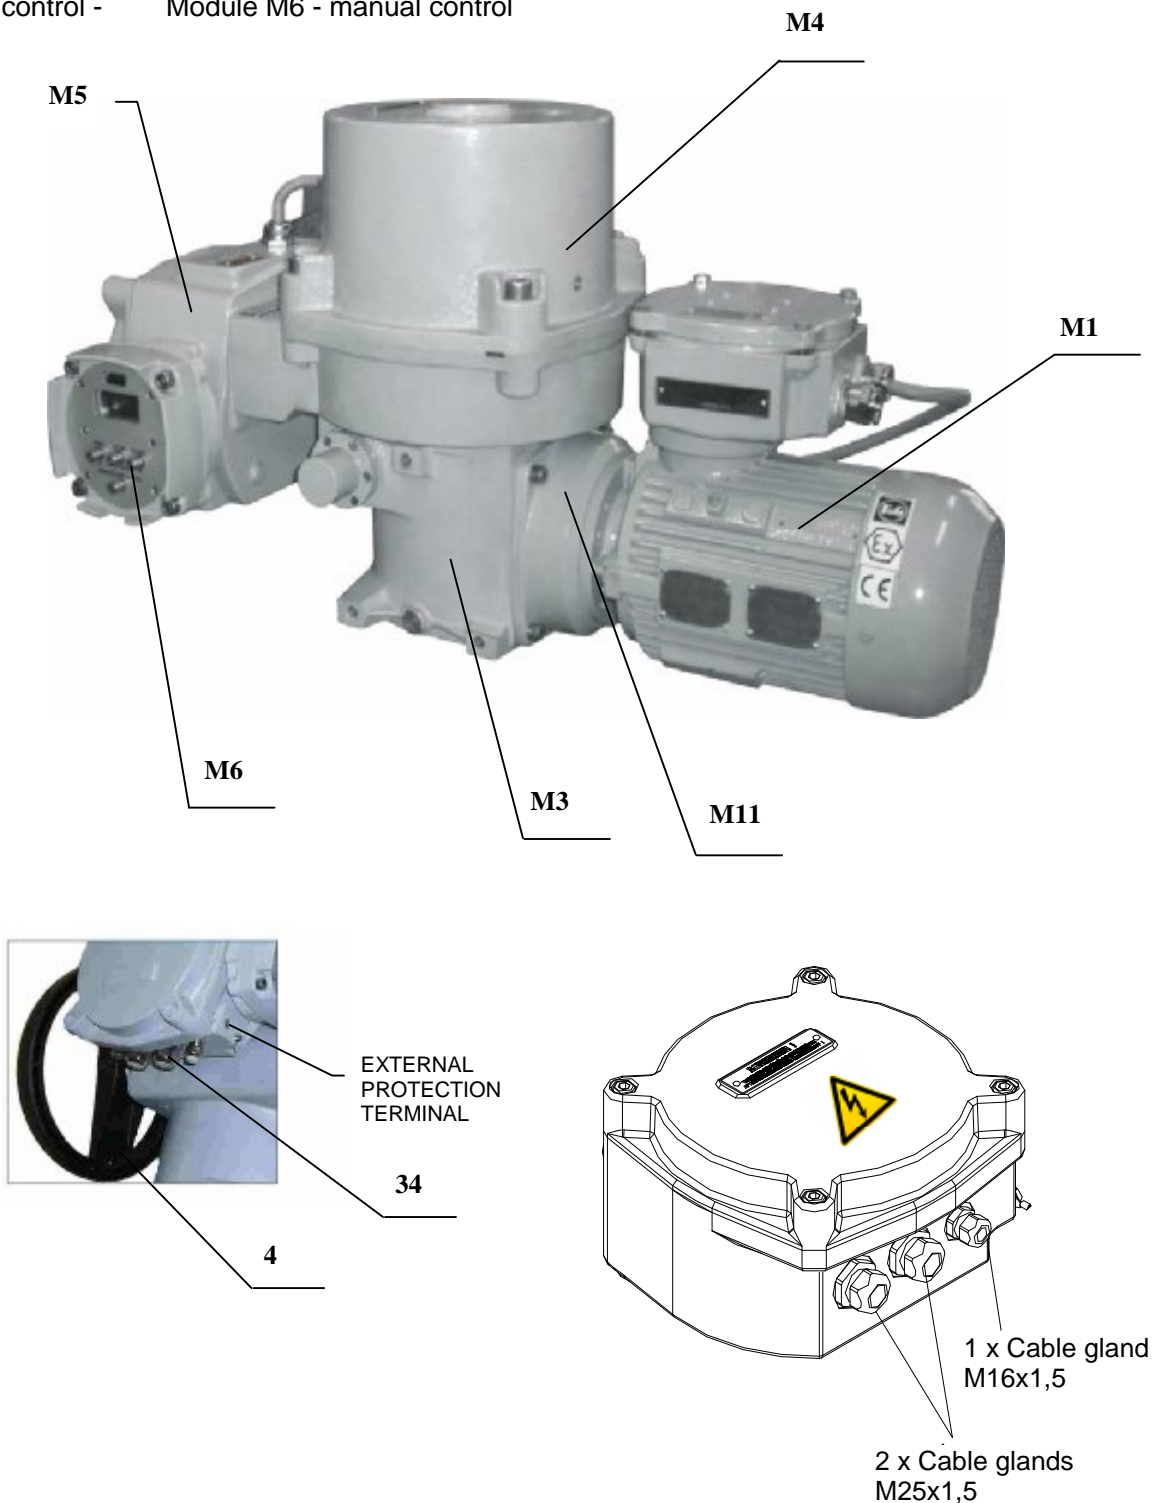
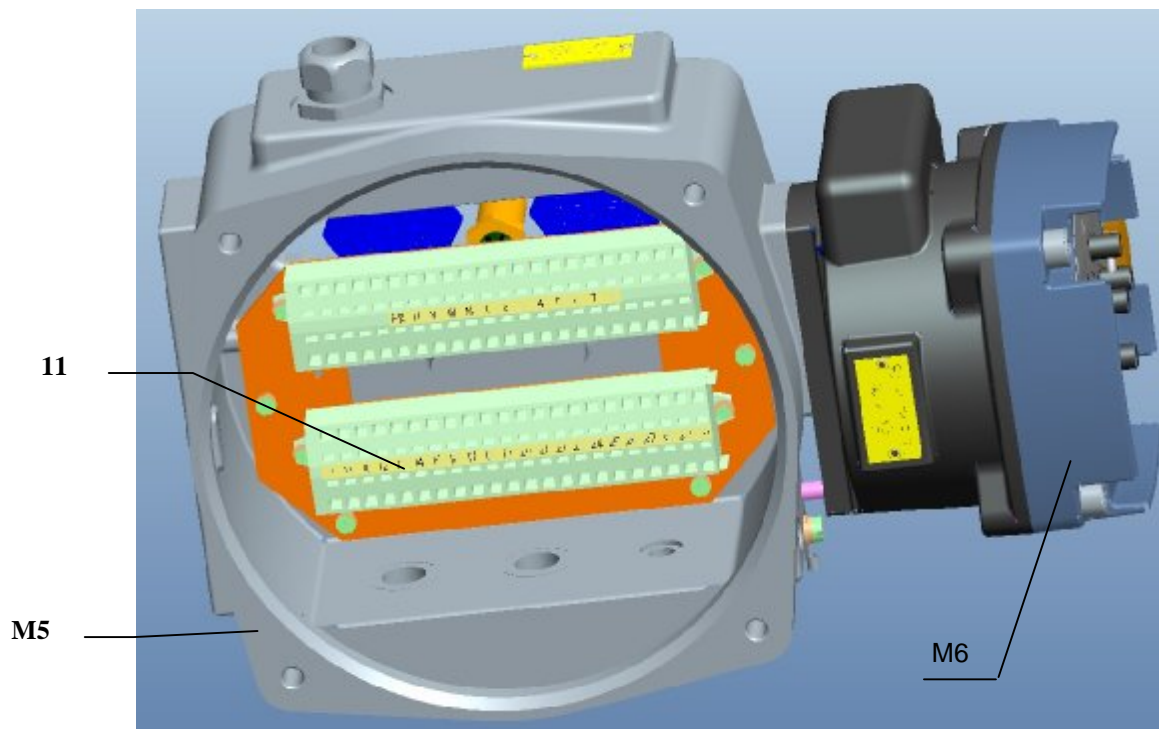

Fig. 1 – MO 3.X-Ex, MO 4-Ex
Fig. 3b – MO 4-Ex
EA MO-Ex are of compact construction with several connected modules. They are composed of two functionally different main parts consisting of following modules (Fig.1,1a):
Module M4 – control box (Fig. 1,1a), Ex db IIC T4 a T5 Gb is in upper part of electric actuator and forms individual function unit. The top part is formed by the cover with opening and monitoring window of position indicator.
- electrical connections by means of terminals (11) (Fig.3b,c), situated within terminal box (M5) (Fig. 1,1a) and cable glands (34) (Fig. 1,1a),
- local electric control module (M6) (Fig. 1, 1a) (according to EA specification) is situated in terminal box
The M5 terminal box module (fig. 1, 1a) enables electrical connection through terminal boards (11), (fig. 3b), located in the space of the terminal box (M5) and cable glands (34) (fig. 1, 1a).
The M6 local control module (fig. 1, 1a, 3b) (according to EA specification) is located on the terminal board and connected to the control board.